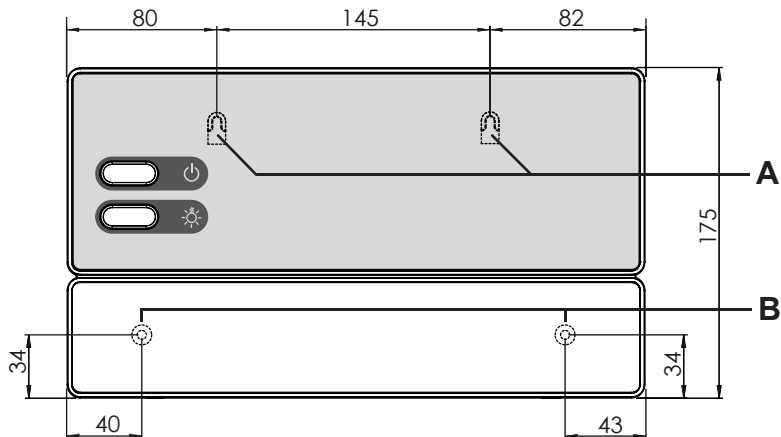

Fig. 1 Position of the attachment device and the installation holes (dimensions in mm)
1. Screw two cross-head screws (16 mm) into the wall of the sauna at a height of approx. 1.70 m to a distance of up to 7 mm. The two screws must be placed at a distance of 145 mm from each other (see **Fig. 1**).
3. Fasten the sauna control unit onto the cross-head screws using the attachment device **A** as an aid (see **Fig. 1**).
4. Screw two cross-head screws (16 mm) into the lower fastening holes **B** (see **Fig. 1**).